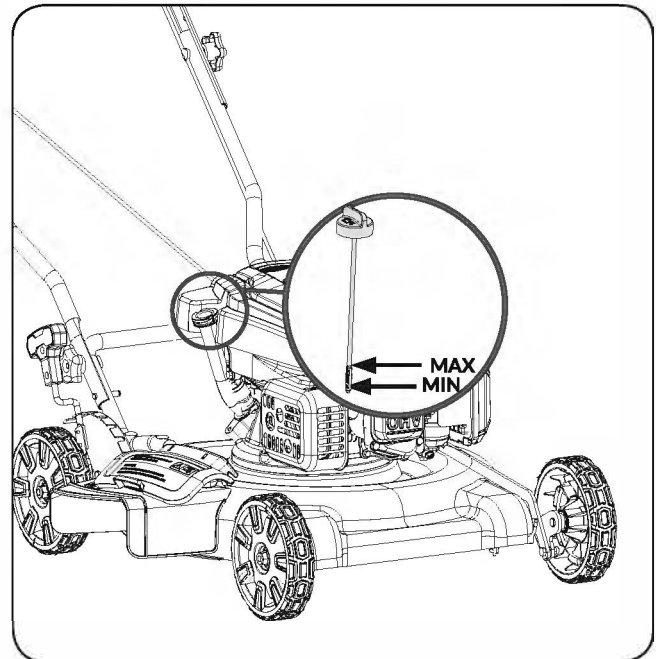

Figure 13
- Remove the dipstick by rotating the cap counterclockwise and pulling it out. (See **Figure 13**)
- Read the oil level on the dipstick. (See **Figure 13**)